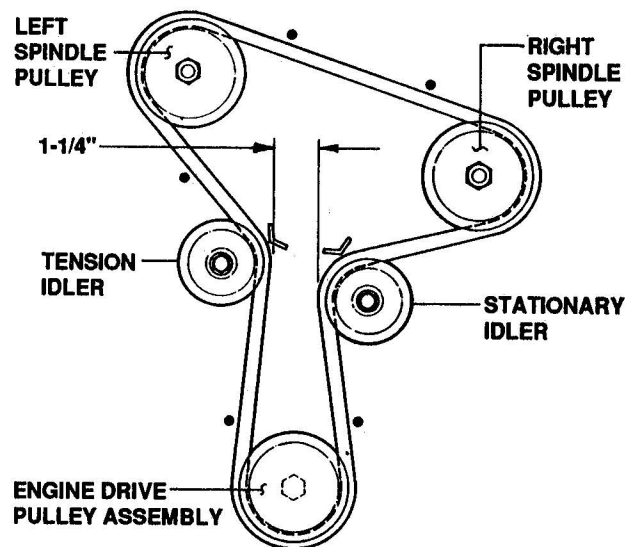

FIGURE 3.6
- Measure the distance between belt at idler pulleys. See Figure 3.6. The distance between belt should be 1-1/4" but no less than 1".